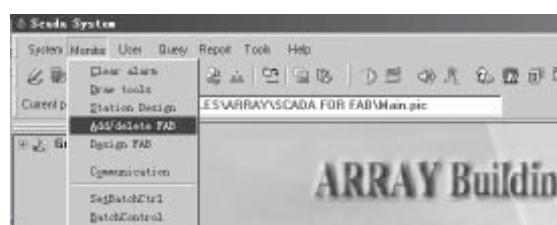
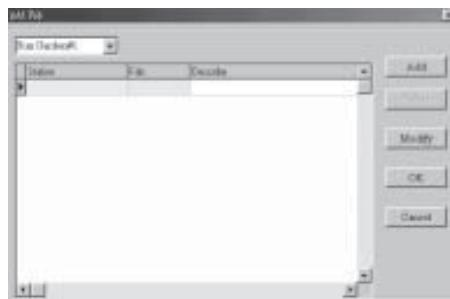

Fig. 4-5 Operation Instructions of Add/Delete FAB
Fig. 4-6 Adding or Modifying FABs Dialogue box 1
1. Click **Monitor>Add/delete FAB** per Fig. 4-5, or click the quick icon in the Toolbar, the dialogue box, as shown in Fig. 4-6 will appear.
2. In the dialogue box, as shown in Fig. 4-6, the Station Name is displayed at the upper left hand corner. If you click **Add**, you can add a FAB in the station. If you click **Delete**, you can delete a FAB in the Station. If you click **Modify**, you can modify the selected FAB.